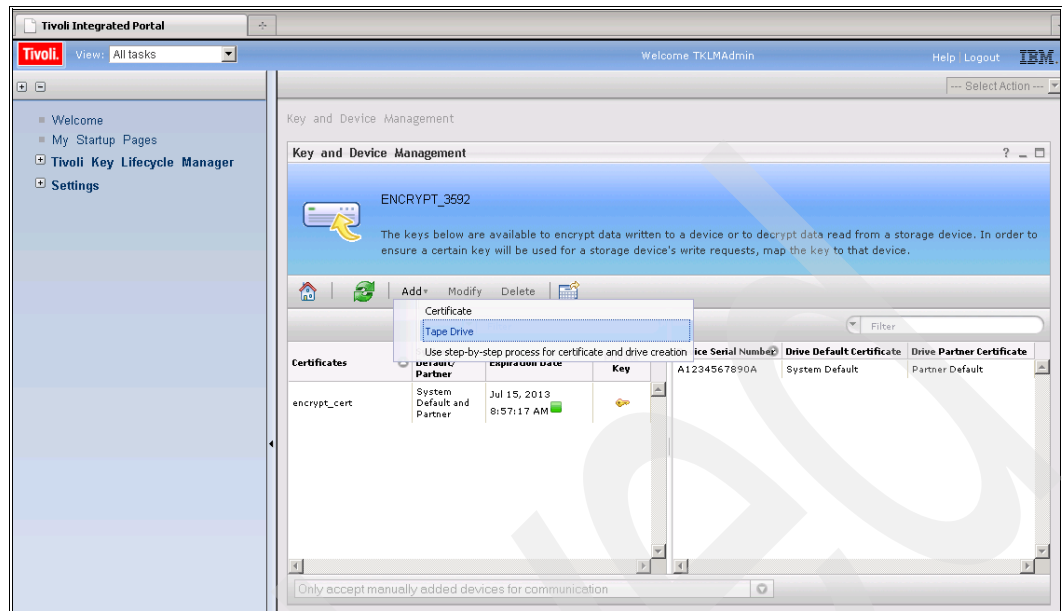

Figure 9-19 Key and device management
3. Click **Add** → **Tape Drive** as shown in Figure 9-19.